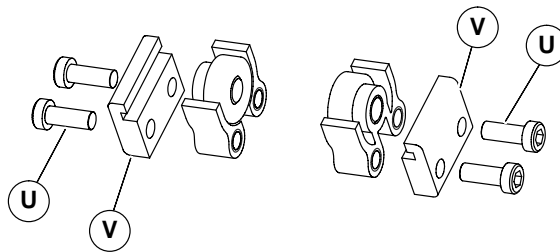

Figure 9
1. Locate return roller assemblies. Exploded views are shown in Figure 9.
2. Remove screws (U of Figure 9) and clips (V) from roller assembly.